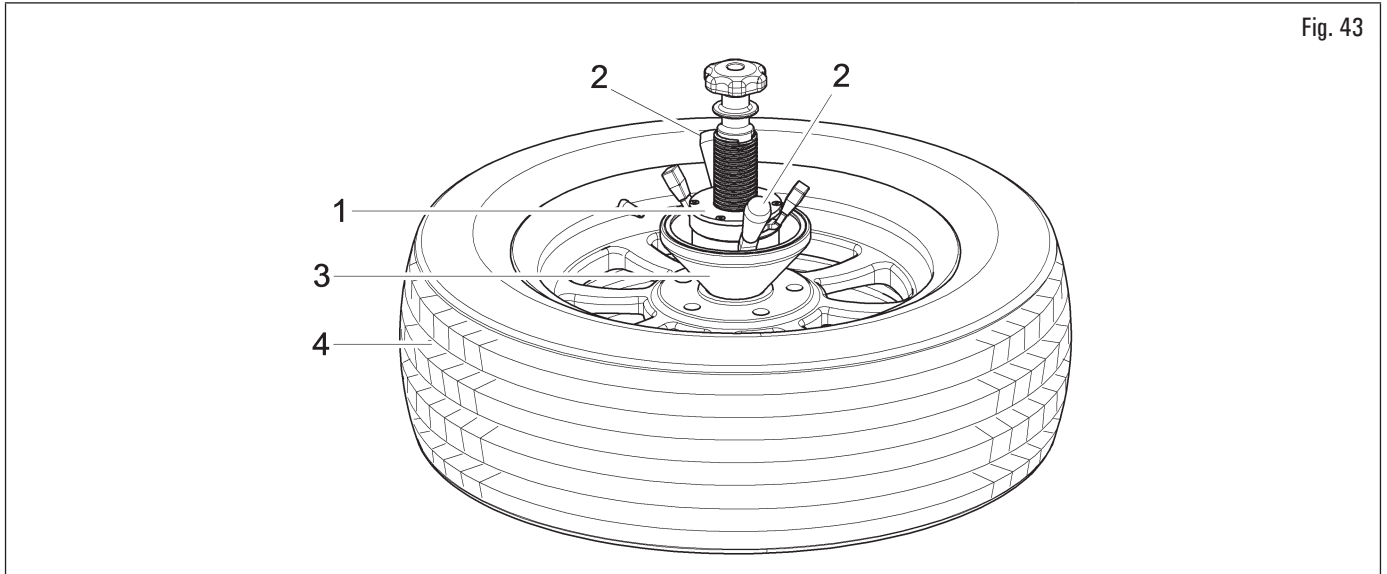

Fig. 43
6. then, turn the ring nut (Fig. 43 ref. 1) using the larger outside levers (Fig. 43 ref. 2) until the cone completely clamps (Fig. 43 ref. 3) the wheel (Fig. 43 ref. 4);